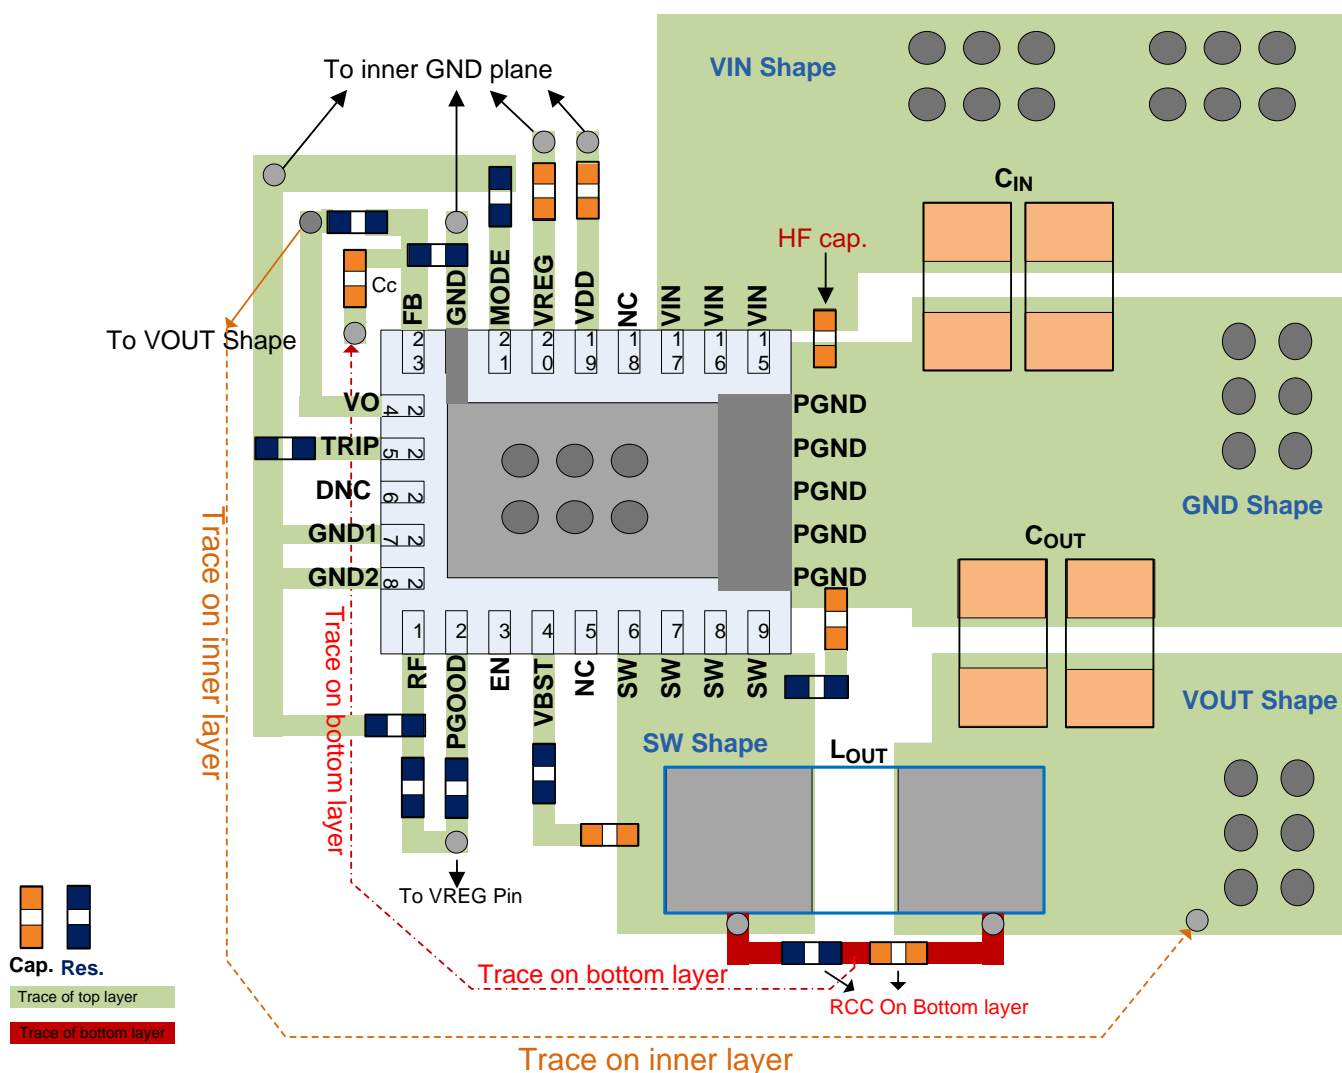

Figure 42. Layout Recommendation
- Place the frequency-setting resistor (RF), OCP-setting resistor ( $R_{TRIP}$ ) and mode-setting resistor ( $R_{MODE}$ ) close to the device. Use the common GND via to connect the resistors to the GND plane if applicable.
- See Figure 42 for the layout recommendation.